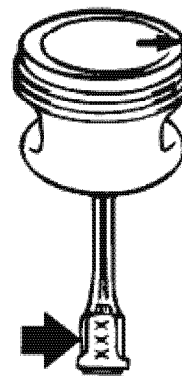

Figure 5-53
5. Orient the piston and connecting rod as shown for assembly (**Figure 5-53**). The arrow on top of the piston must point to the right when the connecting rod identification marks are visible.